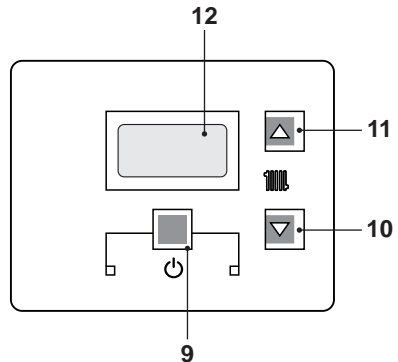

Fig. 2.5
- Press the key 9 for 2 seconds until  symbol appears on the display Fig. 2.5.
The output temperature of c.h. water can be adjusted by acting on keys 10 (reduce) and 11 (increase) (Fig. 2.5) from a minimum of about 25°C to a maximum of about 85°C.
However, if the ambient temperature is not comfortable, the flow temperature of the heating plant can be increased or reduced by $\pm 15^{\circ}\text{C}$ by acting on keys 10 (reduce) and 11 (increase) (Fig. 2.5).